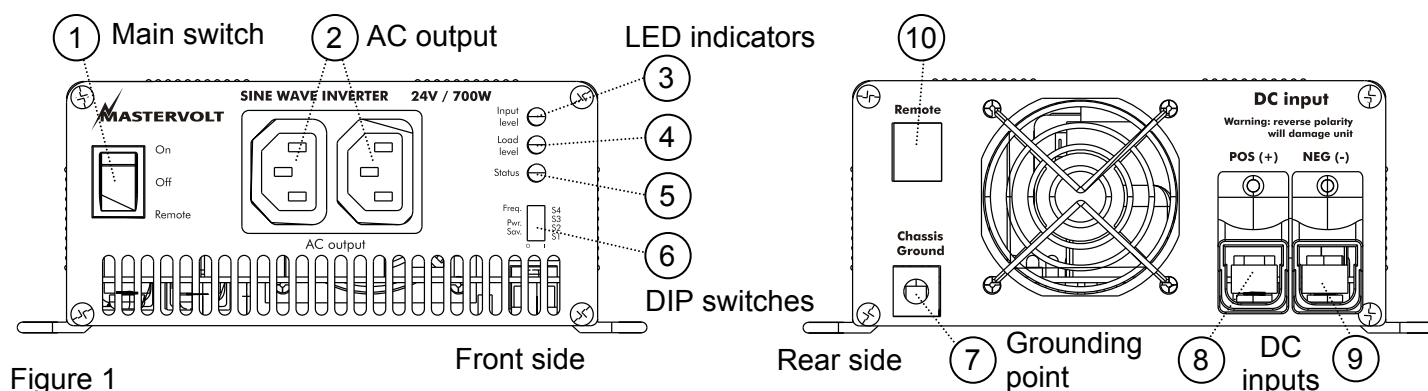

Figure 1
See figure 1. On the front side of the inverter four DIP switches (ref. 6) can be found to adjust the inverter in accordance with your personal preferences.
- Before installing the AC Master make sure the main switch (figure 1, ref. 1) is set to the OFF position.